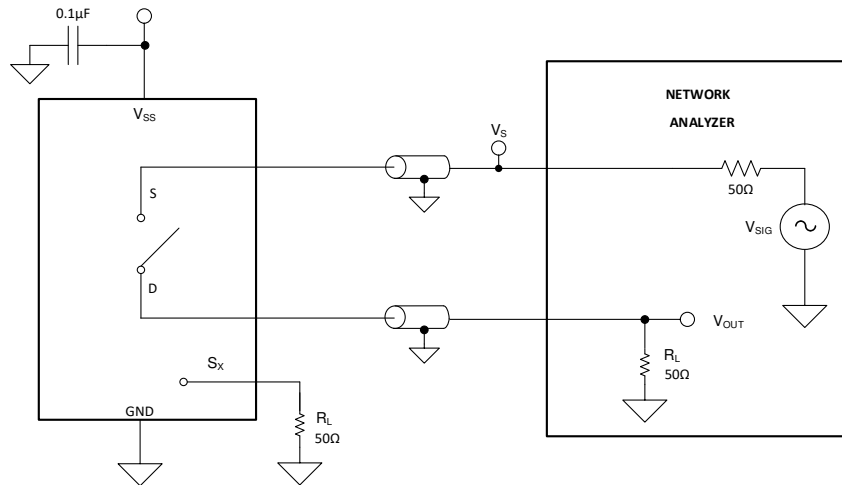

图 7-9. Off Isolation Measurement Setup
Off isolation is defined as the ratio of the signal at the drain pin (D) of the device when a signal is applied to the source pin (S_x) of an off-channel. 图 7-9 shows the setup used to measure, and the equation used to calculate off isolation.